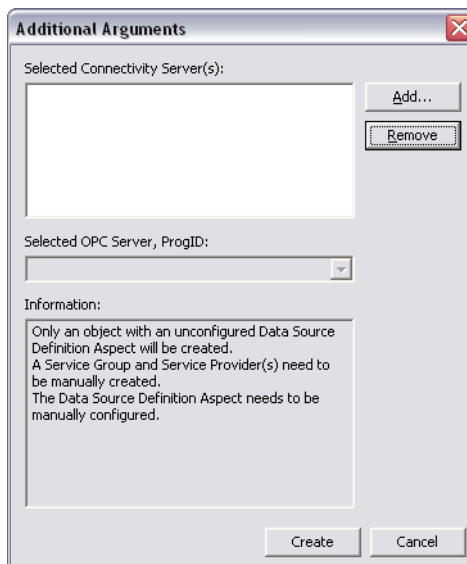

Figure 319. Connection of Generic OPC Server Network Object
2. Follow the wizard and do not select a Connectivity Server or OPC Server. See Figure 319. Only an object with a non configured Data Source Definition Aspect will be created.